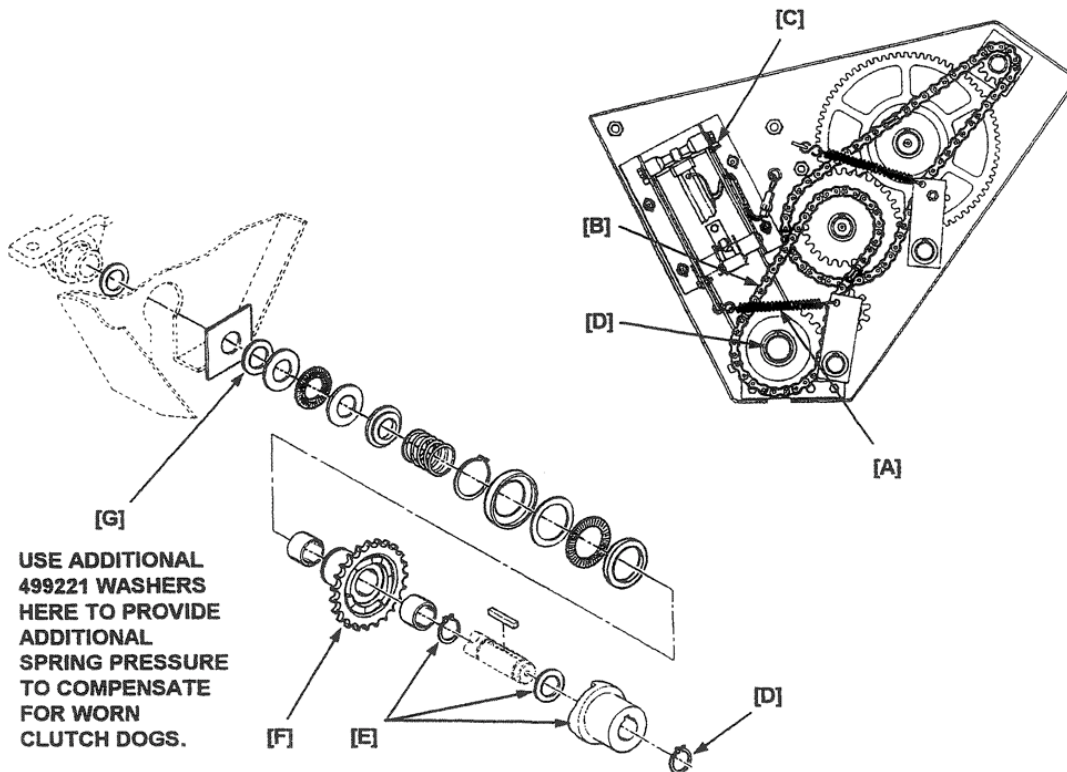
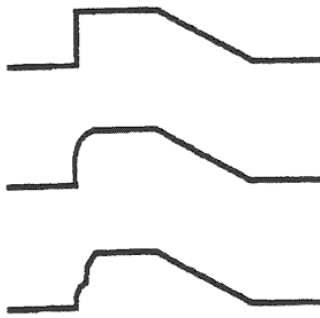

FIGURE 10
FIGURE 11
Use the following steps to remove, inspect, and replace the Main Clutch. See FIGURE 10 and FIGURE 11.
Step 7. Inspect the clutch dogs on the face of each half of the clutch. Refer to FIGURE 11. If the clutch dogs are in good condition, the edges will be square. If the edges of the clutch dogs are rounded or broken, the clutch may disengage while under load. Broken clutch dogs frequently result from engagement of the clutch at excessive speed with the hopper loaded. If the dog clutches are broken, the clutches must be replaced.
**MAIN CLUTCH ADJUSTMENT AND WEAR. PLATE ADJUSTMENT** (See FIGURE 10 AND FIGURE 12)
Engagement of the clutch is. maintained by a compression spring. Unwanted disengagement of the clutch while under load may be a result of normal wear or from damage to the clutch when engaged &t excessive speeds. Compression spring pressure can be increased to stop unwanted disengagement caused by normal wear. Additional washers [G] (Turfco Part Number 499221) will increase the spring pressure to compensate for worn clutch dogs. See FIGURE 10 for placement of additional washers [G]. If the clutch dogs are badly worn or broken, replacement of the clutch dogs will be necessary.
only partially engaged, adjustment is require. Disconnect the electrical connection from the power source. Remove shims from behind wear plate [H] (SEE FIGURE 10) until engagement is attained,